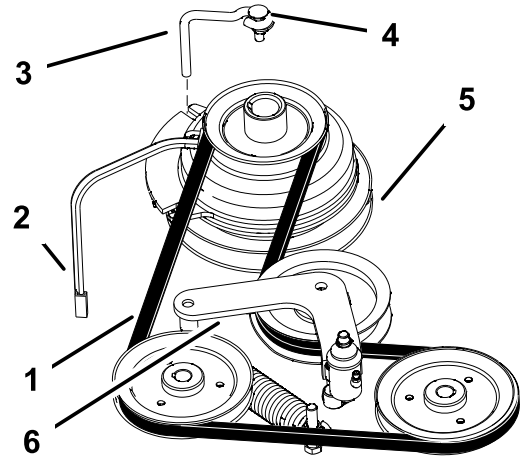

Figure 46
- Remove the bolt from the clutch stop and unplug the clutch electrical wire (Figure 46).
- Remove the traction belt from the engine and the hydraulic pump pulleys (Figure 46).
- Install the new belt around the engine and the hydraulic pump pulleys (Figure 46).
- Release the pressure on the spring loaded idler (Figure 46).